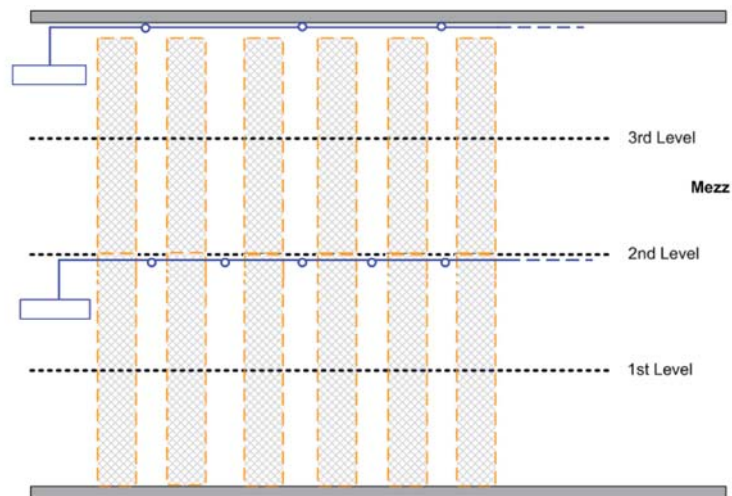

Figure 6 – Example of Multi-Level Detection (Ceiling and Intermediate Level).
4. Multi-Level Detection – this detection method applies to Warehouses comprising high bay storage racks and utilizes more than one System Sensor system for ceiling and intermediate level protection (Figure 6).
This design option requires on ceiling and multiple intermediate level System Sensor systems (Figure 6).